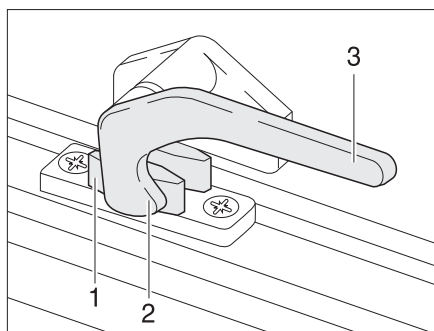

Fig. 8 Catch lever in "closed" position
- Turn the catch lever (Fig. 8,3) a quarter turn towards the centre of the window.
- Turn the catch lever (Fig. 8,3) a quarter turn towards the window frame. The locking catch (Fig. 8,2) is located on the inside of the window catch (Fig. 8,1).
- "Firmly closed" (Fig. 8)